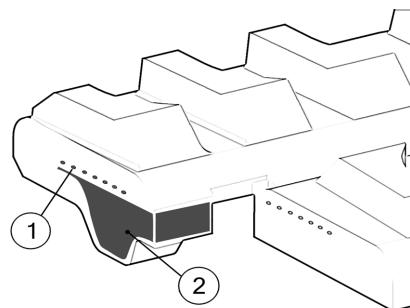

Figure 37 - Rubber Track Structure
The structure of the rubber track is shown in Figure 37. The steel cables (1) and metal core (2) are embedded in the rubber.